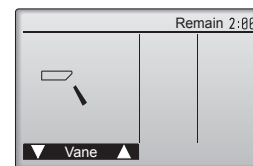

Fig. 7-6
- ① Check the auto vane with the buttons. (Fig. 7-6)
- ② Press the button to return to "Test run operation".
- ③ Press the button.